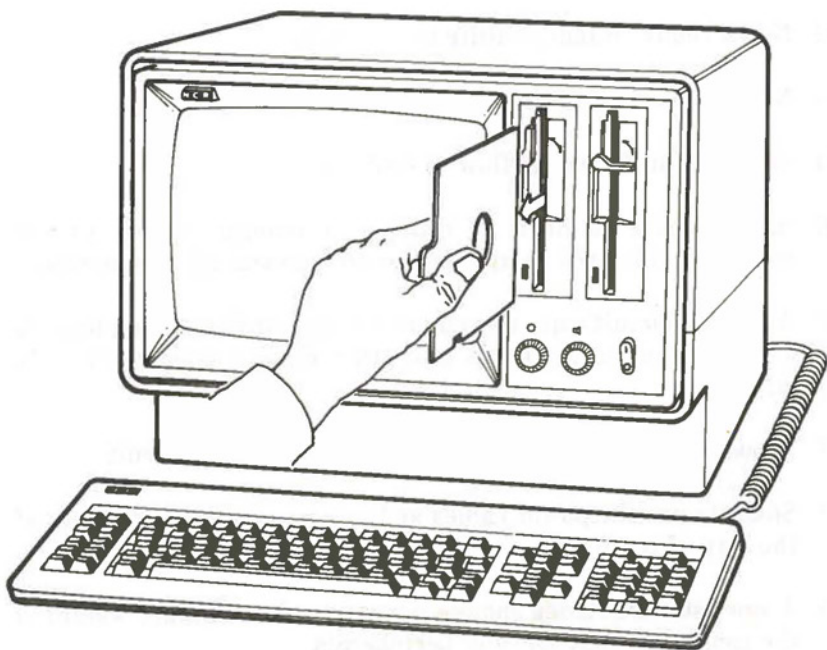

Figure 2-1 Remove Tabbed Inserts From Drives
3. Remove the tabbed inserts in the drives and save these with the boxes (see Figure 2-1).